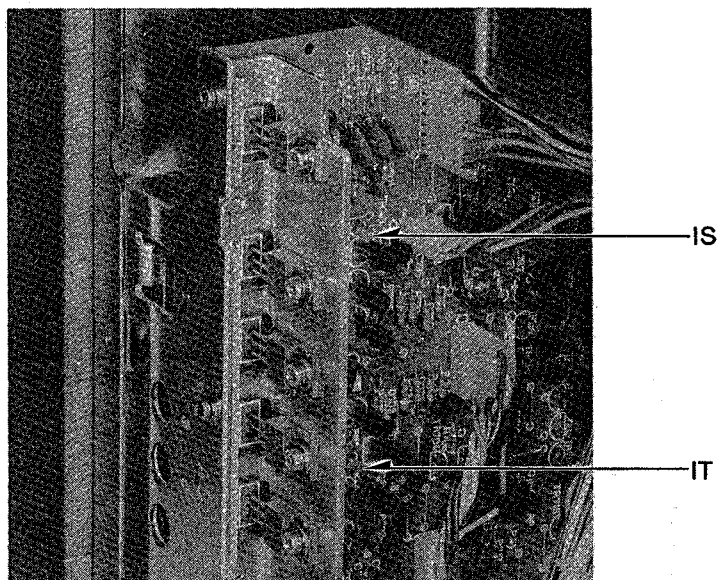

Fig. 14
- (1) Install a full wound tape (10" or 7").
- (2) Set tape-speed selector to 19 cm/s.
- (3) Connect a VTVM to terminal IT (for take-up torque) or IS (for back tension) on reel-drive circuit board as shown in fig. 14.
- (4) Playback the tape about its middle.
- (5) At this time, voltage at each terminal;